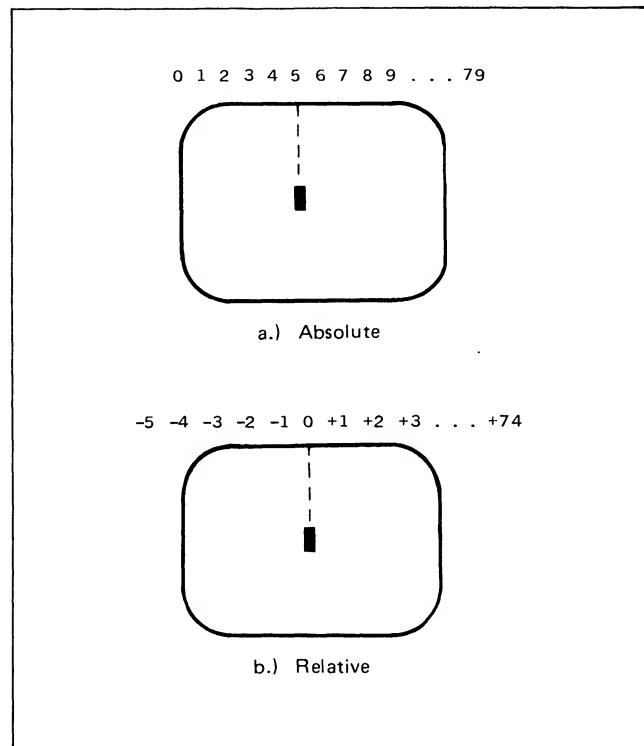

Figure 2-2. Column Addressing
**COLUMN ADDRESSING.** Column addressing is accomplished in a manner similar to row addressing. There is no difference between screen and cursor relative column addressing. Figure 2-2 illustrates the difference between absolute and relative addressing. The cursor is shown in column 5.